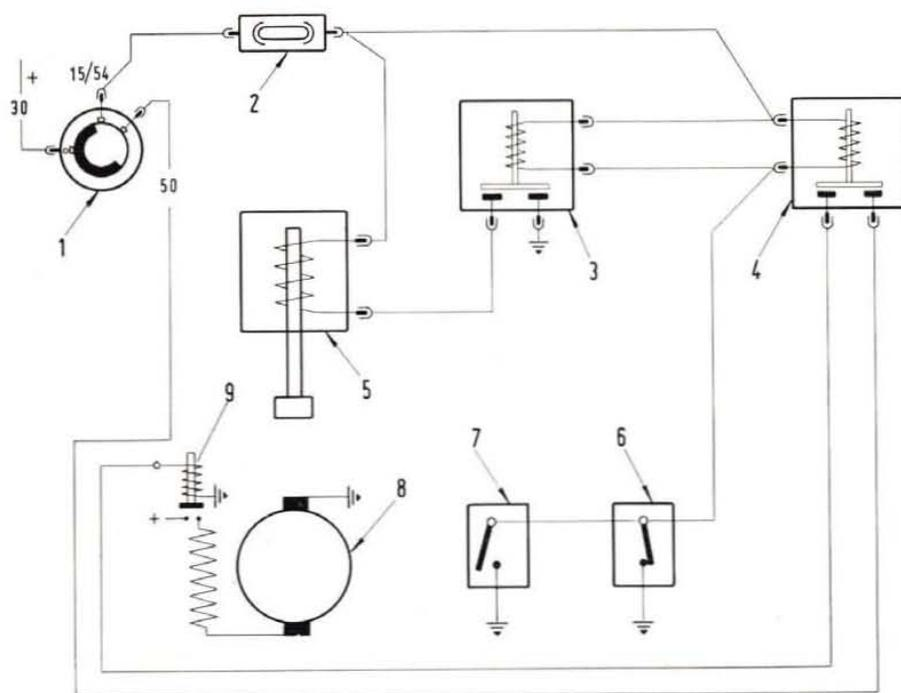

Fig. 571 - Wiring diagram.
Relay (3, fig. 571), controls solenoid (5) which, in turn, operates plunger valve; switch (4) acts as an inhibitor monitoring starter motor relay (9).